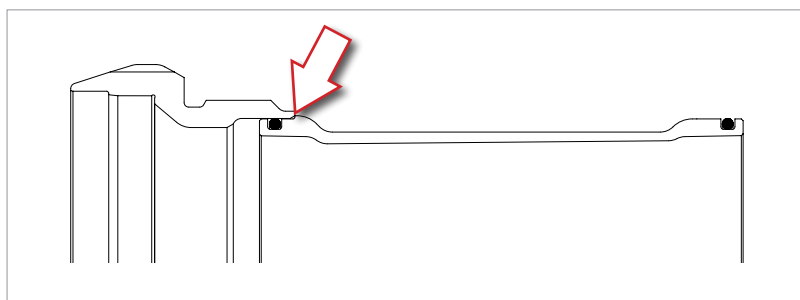

Fig.2
- Make sure that the cup is against the profile in the hose (Fig. 2).